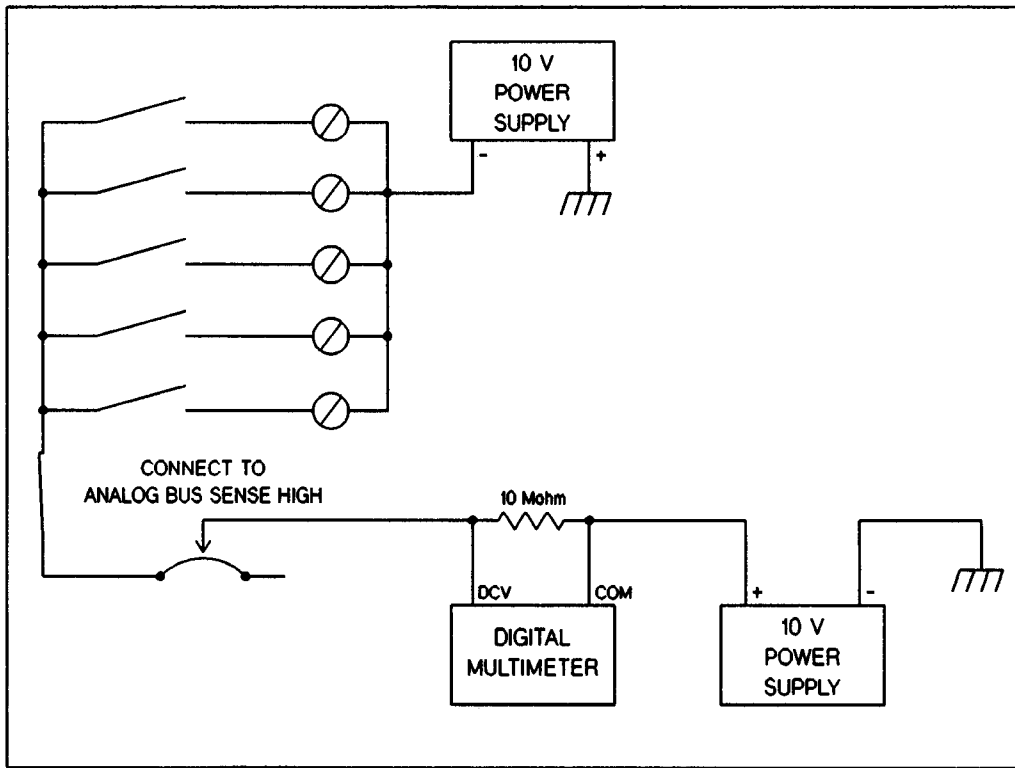

Figure 10-31 Open Channel Leakage Test
1. OPEN CHANNELS LEAKAGE/BIAS CURRENT TEST. This test checks the leakage current with all channels open. A simplified schematic of the setup is shown in Figure 10-31 and the test setup is shown in Figure 10-32.
10. **CLOSED CHANNEL LEAKAGE/BIAS CURRENT TEST.** This test checks each channel HIGH lines for leakage current when a channel is closed. A simplified schematic of the setup is shown in Figure 10-31 and the test setup is shown in Figure 10-32.